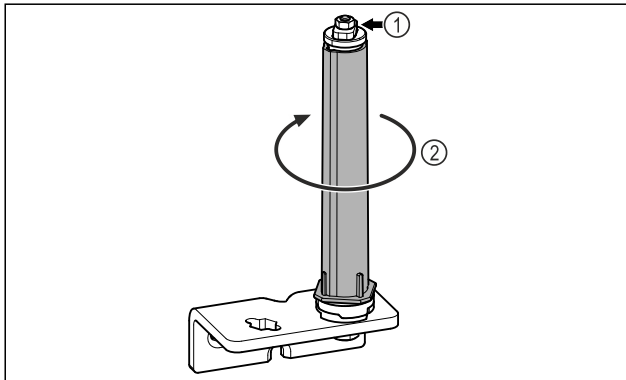

Fig. 22
- ▶ Do not disassemble the door locking system Fig. 22 (1).
- ▶ Turn the locking system Fig. 22 (2) until it clicks.